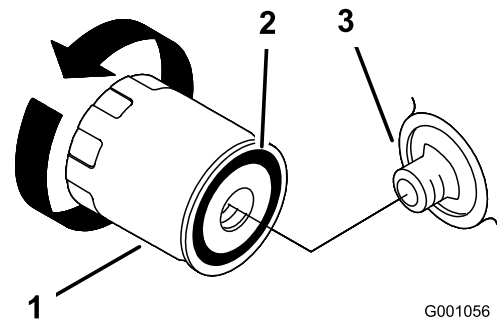
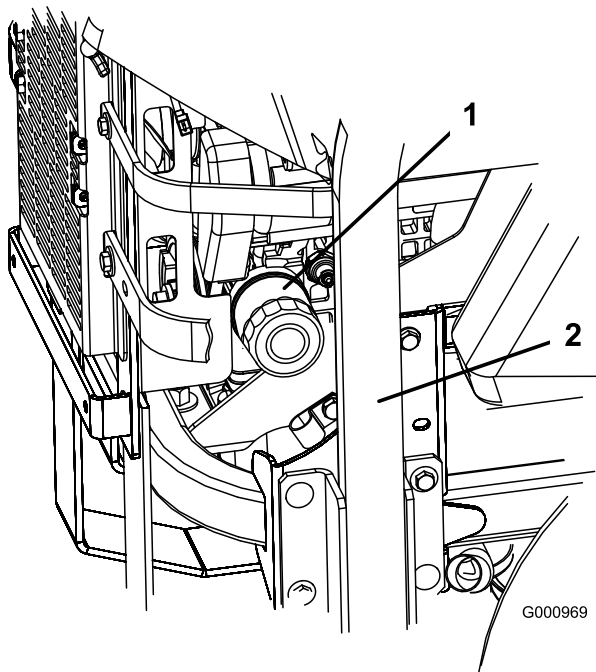

Figure 47
Figure 46
3. Turn the filter counterclockwise to remove it (Figure 46 and Figure 47).